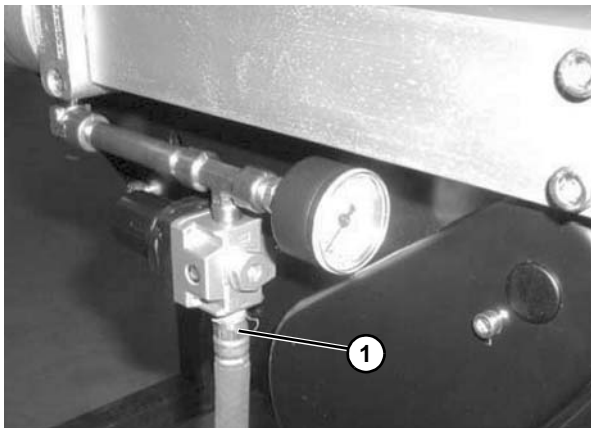

Figure 101
1. Remove air supply and remove hose (Figure 101, item 1) from the center drive.